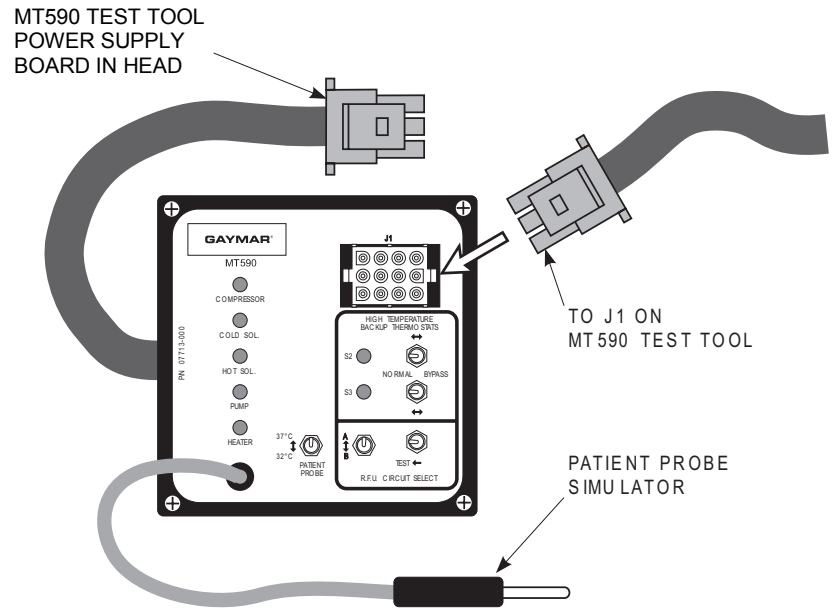

Figure 4—MT590 Test Tool
4. Connect MT590 Test Tool as shown in figure 4. Connect P7 (base) to J1 (MT590). Connect 12 pin cable (MT590) to J1 (head, power supply board). Plug machine in. Insure the S2 and S3 toggle switches are in the *NORMAL* position.